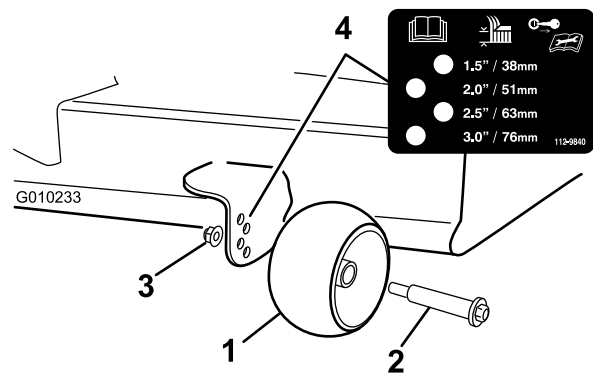

Figure 25
3. Adjust the anti-scalp rollers as shown in Figure 25 to match the closest height-of-cut position.